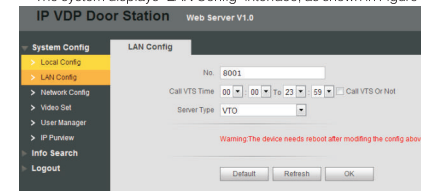

Figure 3-7
Step 6 Login WEB interface again; select "System Config > LAN Config". The system displays "LAN Config" interface, as shown in Figure 3-7.